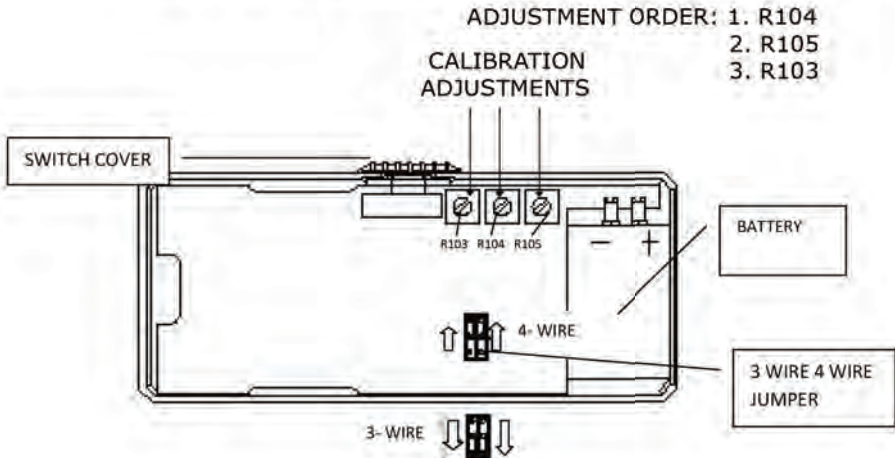

Figure 3-2. Component Locations
2. Set the 3 WIRE/4 WIRE jumper (see Figure 3-2) to the desired position, as indicated in figure 3-2.